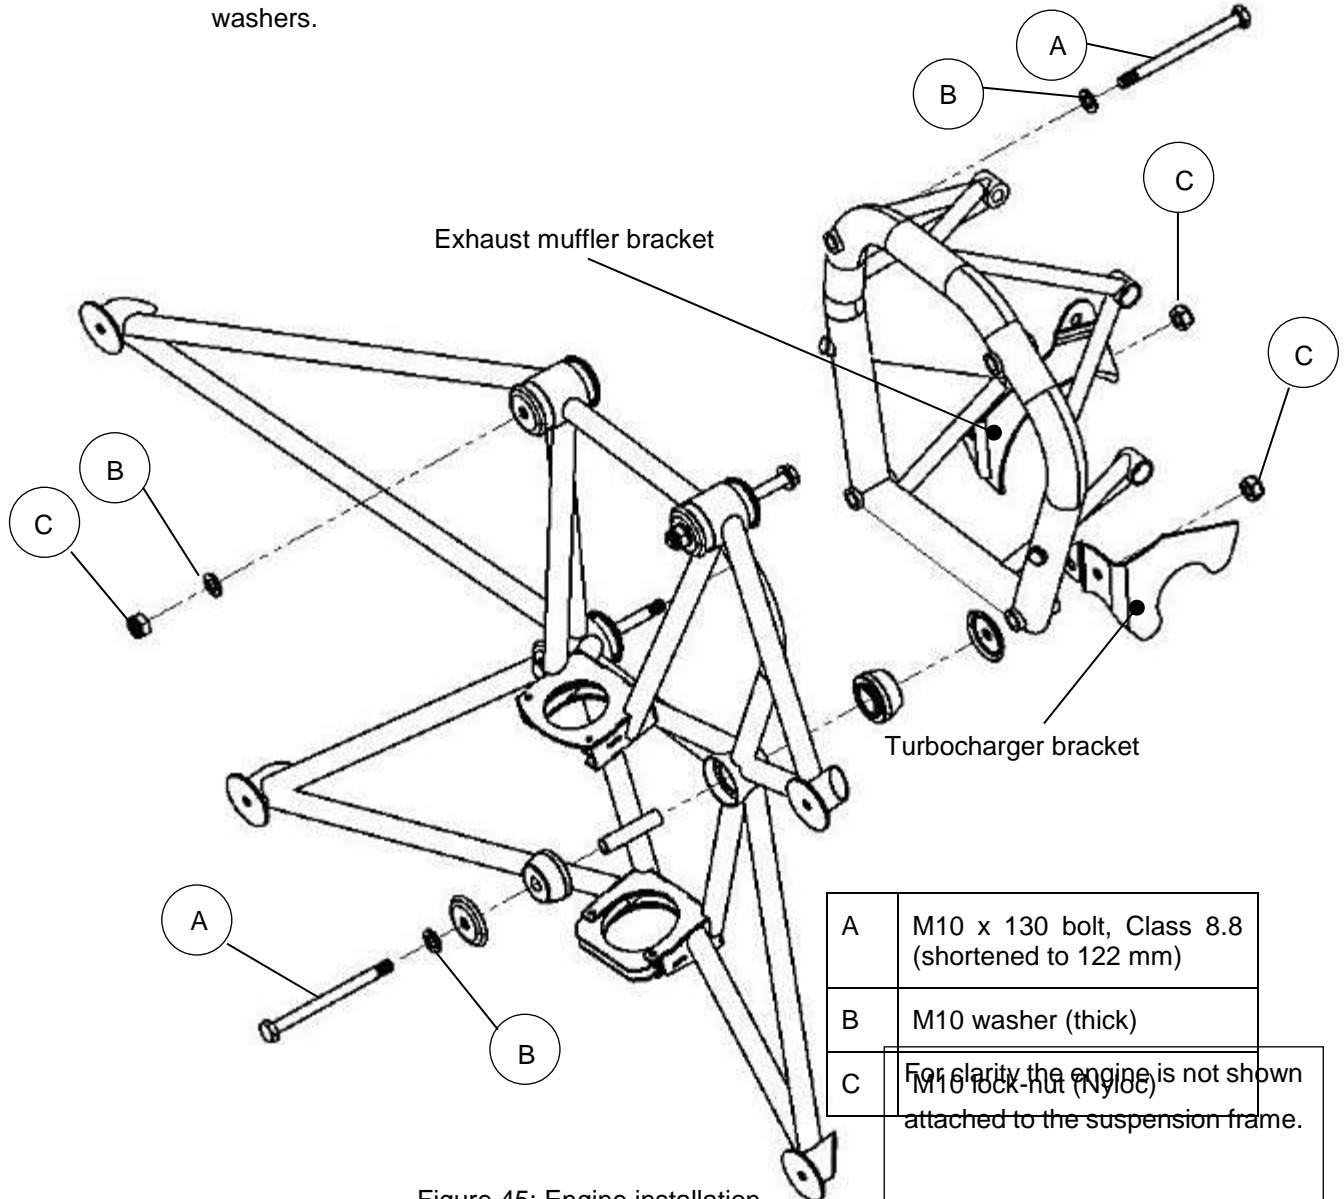

Figure 45: Engine installation.
- Note that the two top mounting bolts are installed with the bolt heads facing forward. The bottom bolts are installed with the bolt heads facing backward. Observe correct placement of washers, spacers / bushes and vibration dampers (refer to Figure 45). Note that the two bottom lock-nuts seat directly on the turbocharger and exhaust muffler brackets, without washers.